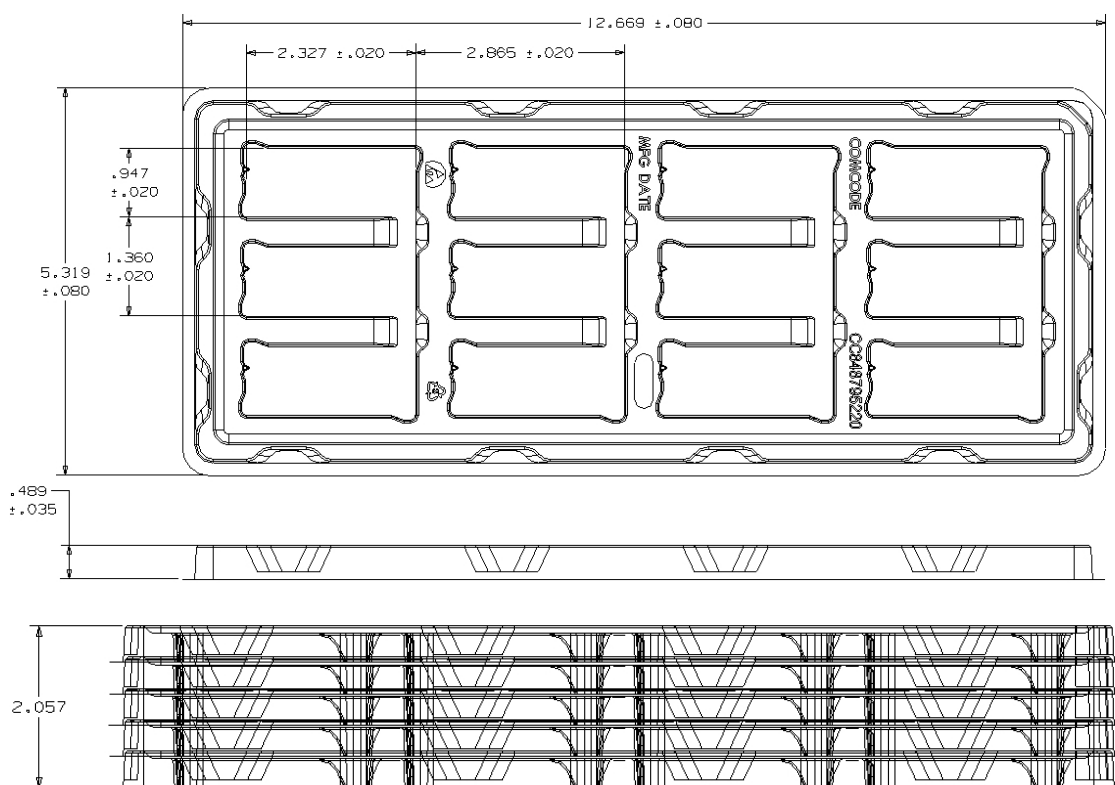

Figure 26. Surface Mount Packaging Tray.
The surface mount versions of the EVW surface mount modules (suffix -S) are supplied as standard in the plastic tray shown in Figure 26. The tray has external dimensions of 135.1mm (W) x 321.8mm (L) x 12.42mm (H) or 5.319in (W) x 12.669in (L) x 0.489in (H).